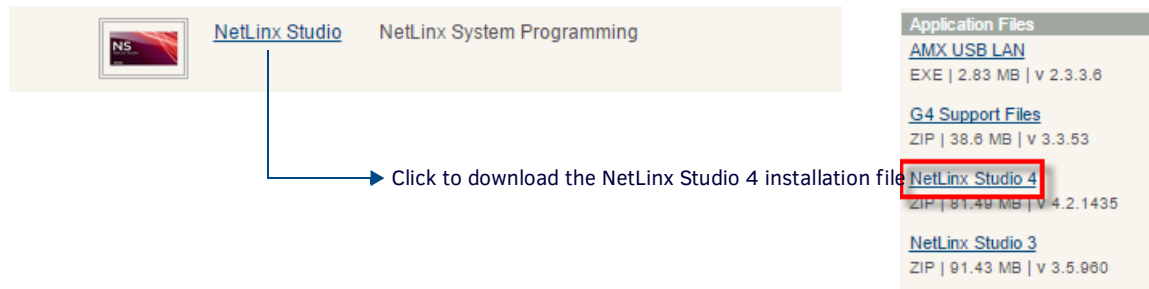

FIG. 132 NetLinx Studio v4 download links on www.amx.com
2. Click the *NetLinx Studio 4* link download the installation file (FIG. 132):